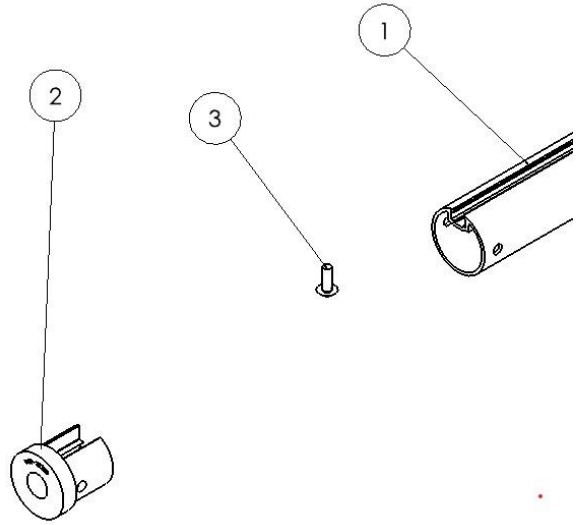

Figure 2.3
Slide the five, 1/4" carriage bolts (3) into the tarp axle slot. Slide the two plastic tarp axle caps (2) into both ends of the tarp axle (1). (Figure 2.3)